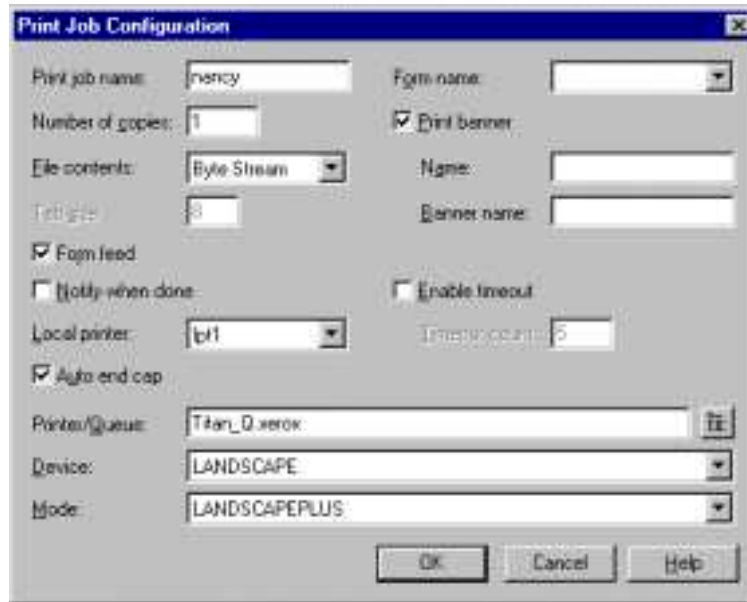

Figure 6: Print Job Configuration Window
3. In the Print Job Name field, give the new configuration a name (see figure 6).